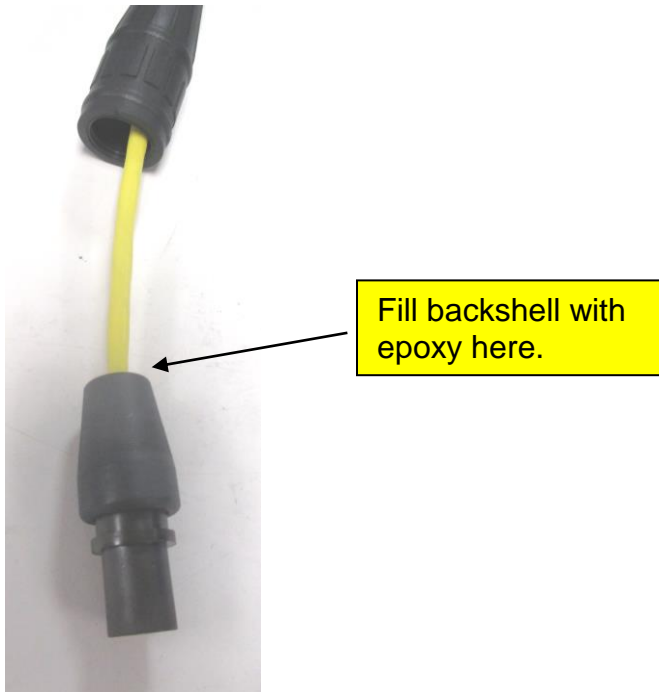

Figure 6
4. Position the now assembled connector body vertically with the open end of the connector facing up, as seen in Figure 6 below.